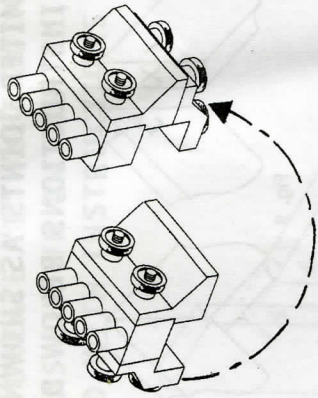

Fig. 8
4. Disconnect studs and clamp bracket from device and bolt to underside of reference plate (see Fig. 8)